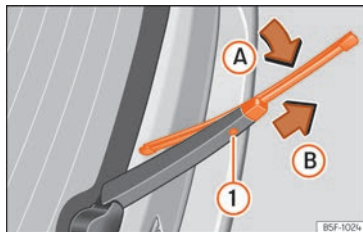

Fig. 152 Changing the rear wiper blade
- Rotate the blade lightly >>> Fig. 152 (arrow A).
- Hold down the release button ① while gently pulling the blade in the direction of arrow B.
- Insert a new blade of the **same length and type** in the rear wiper arm in the opposite direction to the arrow B until button ① hooks into place.